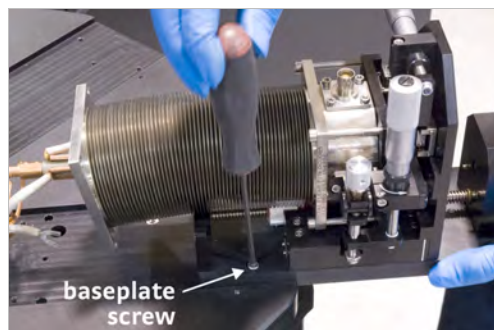

FIGURE 5-7 *Secure the micro-manipulated stage to its holding location*
7. Slide the stage back, and use the 3 mm hex driver to secure the stage to its holding location with two M4 screws (FIGURE 5-7). This is an optional step, and is given to provide you with a convenient work space.